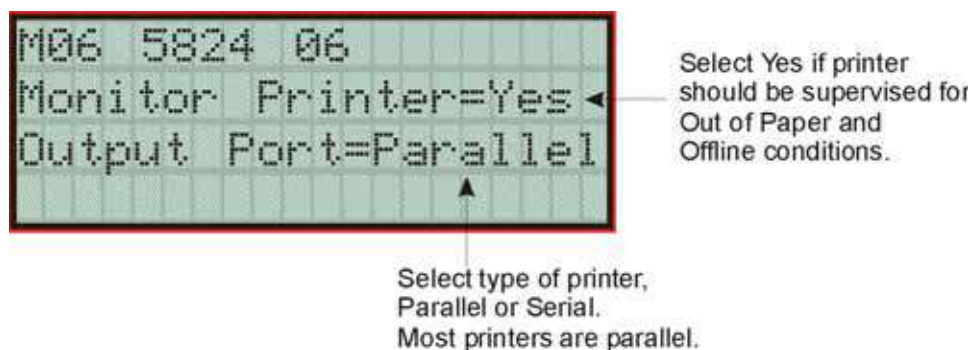

Figure 4-22 Selecting Printer and Output Port Options
5. Press **ENTER** **ENTER** to bypass the next two screens. A screen similar to the one shown in Figure 4-22 will display.